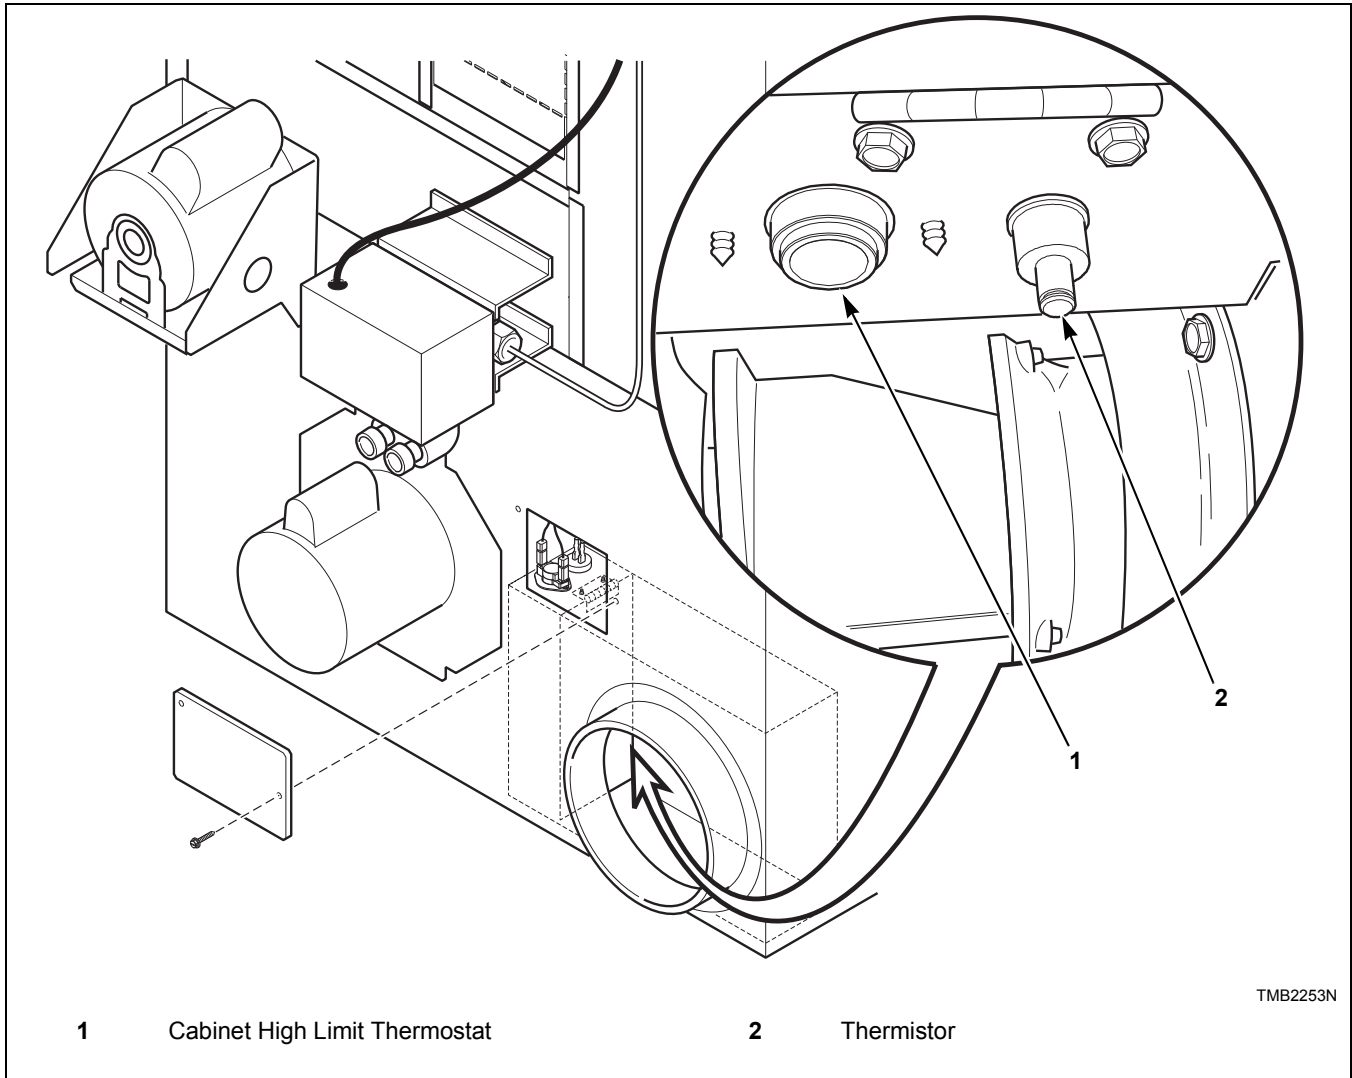

Figure 12
- e. Carefully wipe any accumulated lint off of the cabinet high limit thermostat and thermistor. Failure to do so will allow a buildup of lint in this area to act as an insulator, causing the tumble dryer to overheat. Refer to *Figure 12*.